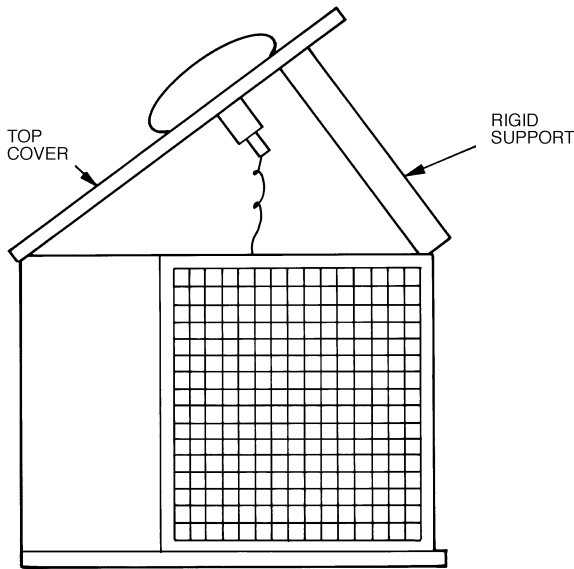

Fig. 21 — Pivot and Support Top Cover
2. Remove screws holding rear corner posts and top cover in place. Pivot top cover up 12 to 18 in. (305 to 457 mm) and support with a rigid support. See Fig. 21.